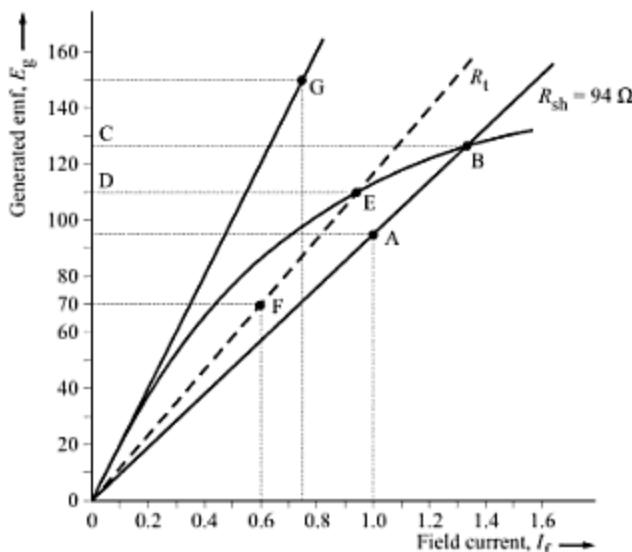

Fig. D-7 The OCC curve for the dc generator.
- (a) Using the given data, we first plot the open-circuit characteristic curve, as shown by thick line in Fig. D-7. We then plot the field-resistance line corresponding to the resistance of 94Ω . For this, we take a suitable value of the field-current (say, 1 A) and find the corresponding shunt-field voltage, $V_{sh} = I_f R_{sh} = 1 \times 94 = 94$ V. When the machine is used as a shunt generator, the voltage V_{sh} is the same as the open-circuit voltage E_g . We mark the point A with coordinates (1.0 A, 94 V) in Fig. D-7. Joining point A with the origin O gives us the required field-resistance line, OA. This line intersects the OCC curve at point B. By projecting point B on E_g -axis, we get point C which gives the open-circuit voltage as 126 V.